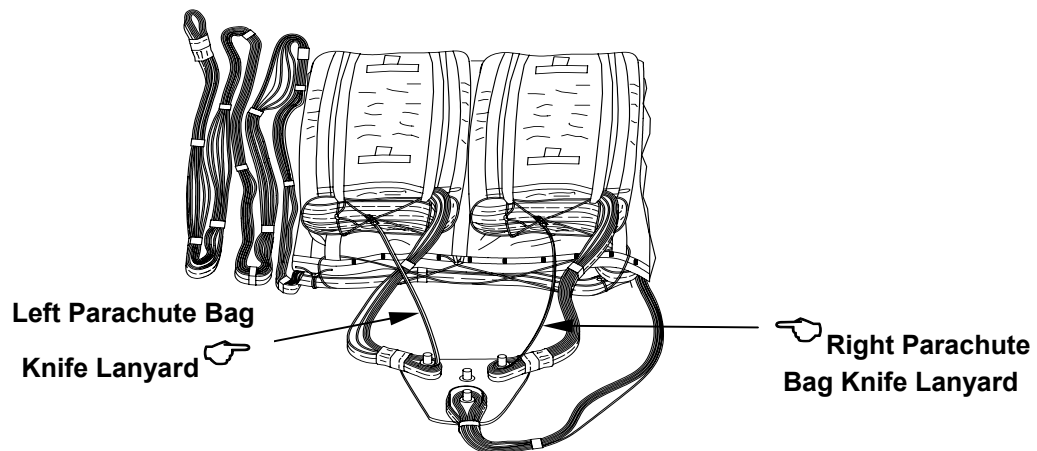

Figure 14. Lanyards Installed.
- b. Fold ½-inch tubular nylon in half and girth-hitch to the left knife, extend lanyard and tie it to the left bolt of the four-point link. Secure ends of tie with three alternating half hitches and an overhand knot in the running ends. Trim off excess and tape. Repeat this procedure for the right side (figure 14).